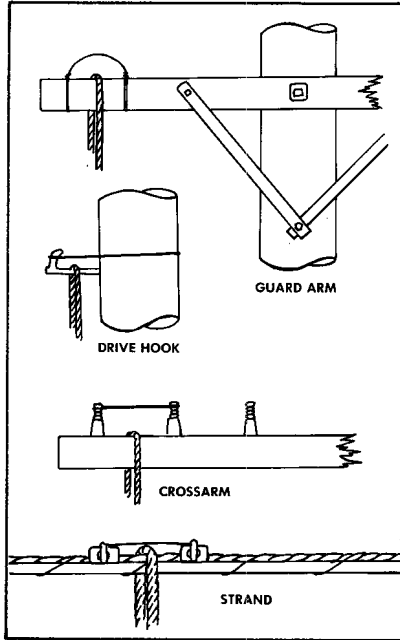

FIGURE 1. Temporary Guide Loop—Pole
2.08 If conditions could cause the handline or the drop wire to which it is attached to become disengaged from a drive hook, crossarm, or to slide along the strand or guard arm while the work is being done, enclose the handline or drop wire with a temporary guide loop. This loop consists of a short length of wire or rope placed over the handline or drop wire, with the ends of the guide securely tied in the following manner (Figure 1):